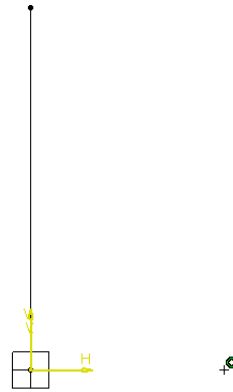

Figure 5-73 Point to be placed
3. Select the YZ plane and invoke the **Sketcher** workbench. Place a point colinear to the X-axis at any distance, as shown in Figure 5-73. Exit the **Sketcher** workbench.